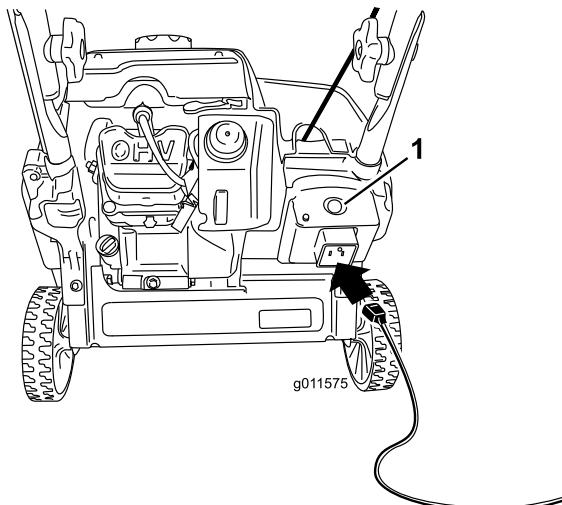
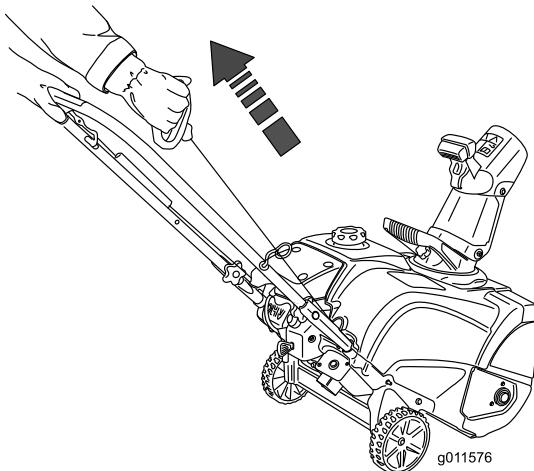

Figure 20
Figure 21
4. Connect an extension cord to a power source and the snowblower, and push the electric-start button (model 38282 only) (Figure 20), or pull the recoil start handle (Figure 21).